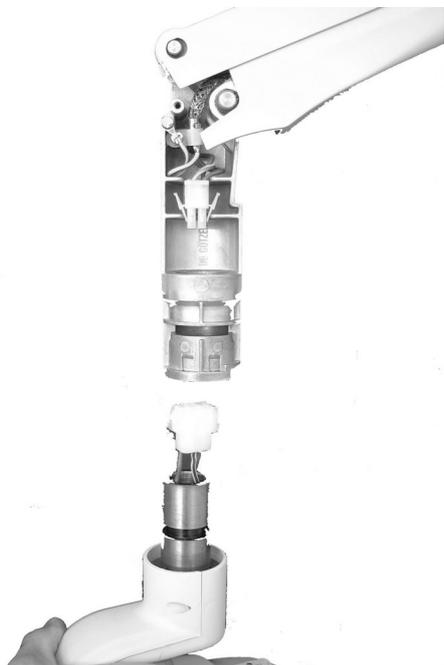
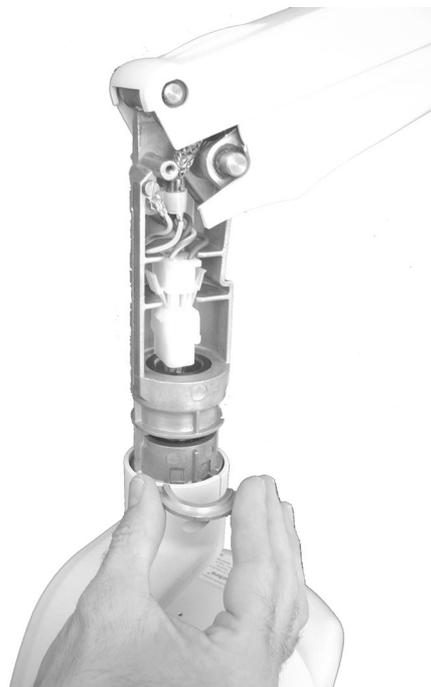

Fig. 14A
Fig. 14B
6. Insert the tubehead pin into the pantograph head (*Fig. 14A*) and insert the support (*Fig. 14B*)